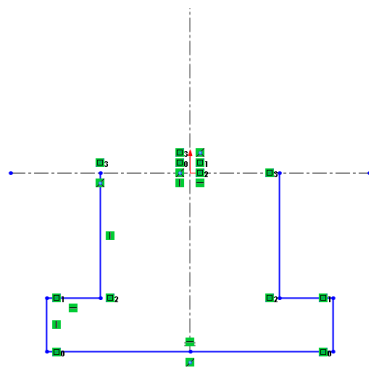

Figure 3-65 Sketch after drawing the lines
- Create the sketch in the third quadrant; the sketch will automatically be mirrored on the other side of the mirror line, refer to Figure 3-65.
7. Move the line cursor vertically upward and click to specify the endpoint of the line when the line cursor snaps the horizontal centerline. Exit the **Line** tool. The sketch after drawing the lines is shown in Figure 3-65.